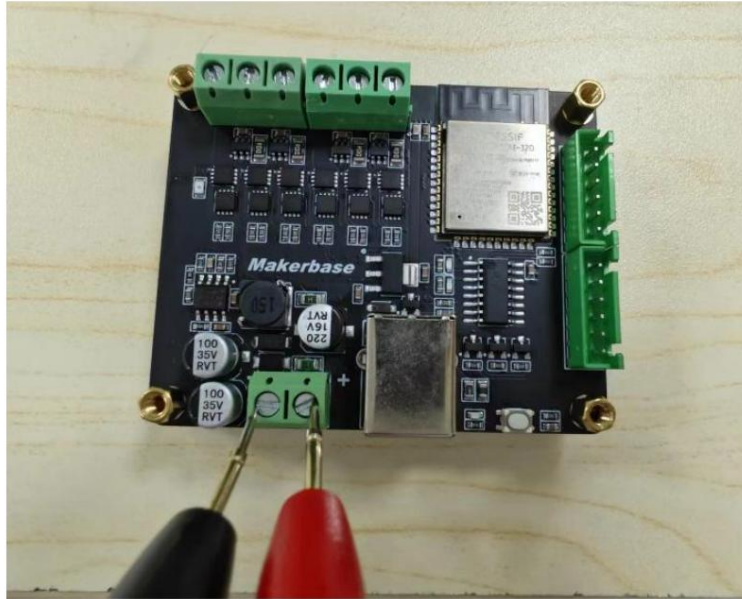

Figure 1 Testing whether Vin is short-circuited
1. Use a multimeter to check whether there is a short circuit between the positive and negative poles of VIN on the driver board, as shown in Figure 1.